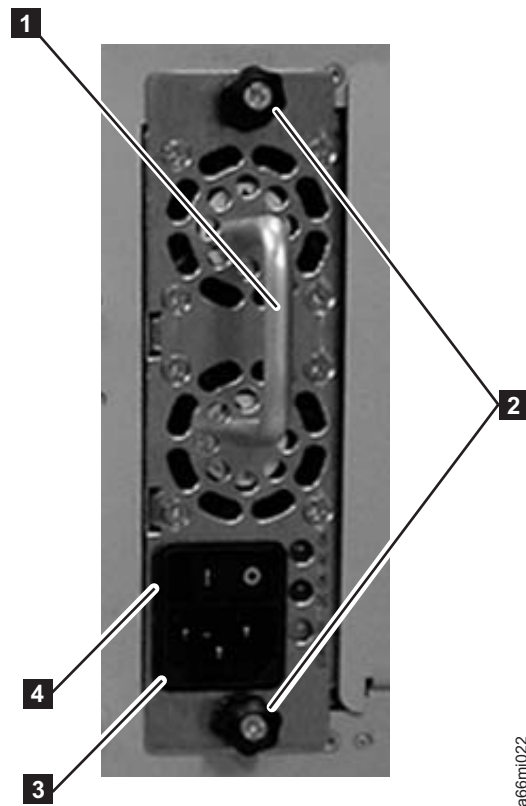

Figure 8-42. Power Supply
Attention: First, disconnect the power cord from the power source. Then, disconnect the power cord from the power supply receptacle (**3** in Figure 8-42).
3. Loosen the two thumb screws (**2** in Figure 8-42) by turning them counterclockwise.
4. Grasp the handle (**1** in Figure 8-42) and slowly pull the power supply toward you, while supporting it from underneath.
2. Grasp the power supply handle (**1** in Figure 8-42 on page 8-45) while supporting it from underneath. Then, line up the power supply with the guides in the slot, and carefully push the power supply into the library.
3. Tighten the two thumb screws (**2** in Figure 8-42 on page 8-45) on the power supply by turning them clockwise.
Attention: First, connect the power cord to the power supply component (**3** in Figure 8-42 on page 8-45). Then, connect the power cord to the power source.
5. Toggle the power switch (**4** in Figure 8-42 on page 8-45) on the power supply to the I (ON) position.
2. Toggle the redundant power supply power switch (**4** in Figure 8-42 on page 8-45) to the O (OFF) position.
3. Unplug the power cord from the redundant power supply receptacle (**3** in Figure 8-42 on page 8-45).
4. Loosen the two thumb screws (**2** in Figure 8-42 on page 8-45) by turning them counterclockwise.
5. Grasp the handle (**1** in Figure 8-42 on page 8-45) and pull the power supply toward you. Support the component from underneath with your other hand.
3. Insert the redundant power supply by gripping the handle (**1** in Figure 8-42 on page 8-45), sliding it into the guide slots, and pushing it into the empty slot.
4. Tighten the two thumb screws (**2** in Figure 8-42 on page 8-45) that hold the redundant power supply in place.
5. Connect the power cord to the power supply (**3** in Figure 8-42 on page 8-45) and to its source.
6. Turn ON power to the redundant power supply, using the switch (**4** in Figure 8-42 on page 8-45) on the power supply.